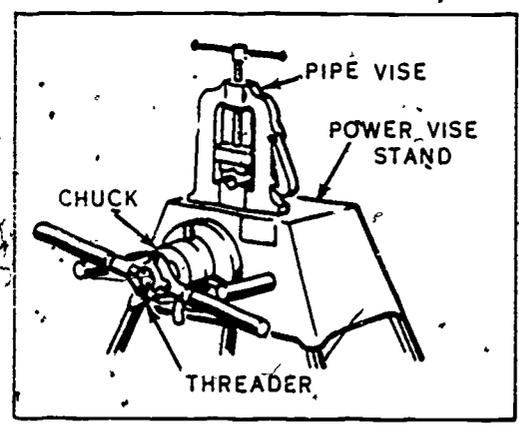

Figure 4-33 Power-driven vise stand.
**Portable Vise Stand.** Another type of thread-cutting machine that you will probably use is the portable power-driven vise stand, shown in figure 4-33. This machine is so designed that it turns the pipe to be cut or threaded while the threader is resting on the arms of the machine. The pipe to be cut, reamed, and threaded is inserted in the chuck in the same manner as in the power threading machine mentioned previously. The portable vise stand is equipped with a chuck which grips pipe from 1/4 to 2 inches in diameter. It is powered by a reversible, variable-speed electric motor. Other equipment used with the vise stand is the pipe cutter, the reamer, and the threader. A pipe vise is bolted to the top of the machine.